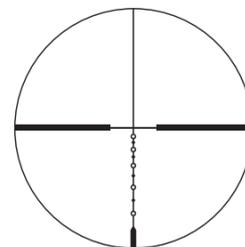

Fig. 3
(1) Focusing
- Look through the eyepiece with your eye positioned about 4 in (10 cm) away from the eyepiece to see the BDC 600 reticle (Fig. 3), depending on your purchased product. Be sure your eye is positioned with proper alignment and with proper eye relief, otherwise the view will "black out."